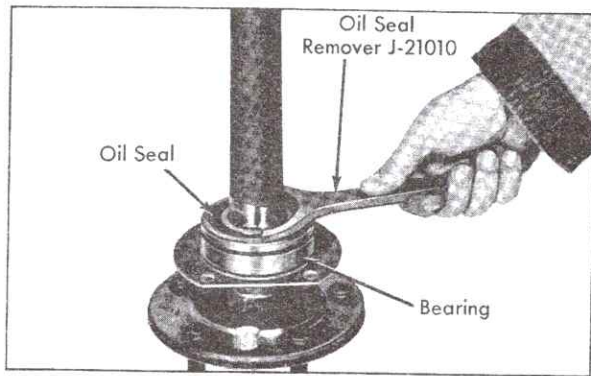

Fig. 4-32 Removing Oil Seal from Bearing
4. Remove oil seal from bearing using Oil Seal Remover, J-21010, Fig. 4-32. Hook slotted flange of remover tool under rolled edge of seal case and pry up on tool handle. Then slide seal off axle shaft.